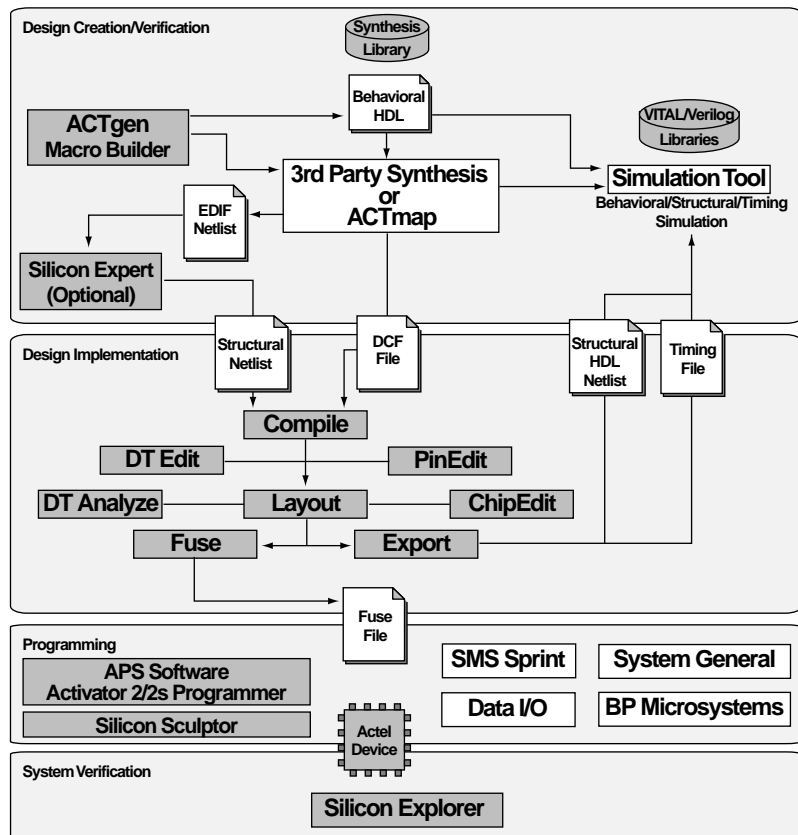

Figure 2-2. Actel HDL-Based Design Flow
Figure 2-2 shows the HDL synthesis based design flow for an Actel device using Designer Series and third-party HDL synthesis software.1
1. Actel-specific utilities/tools are denoted by the grey boxes in Figure 2-2.